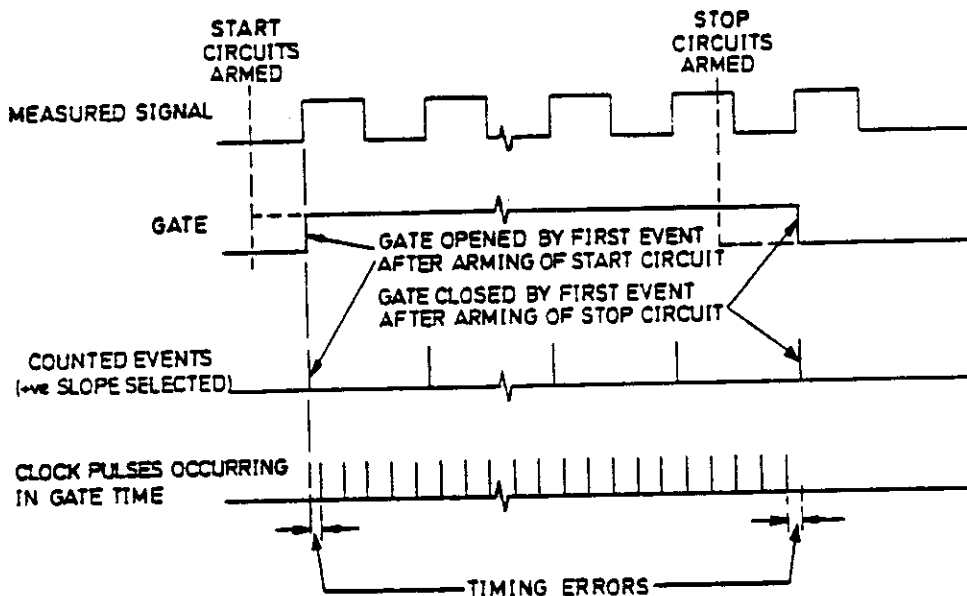

Figure 5.5 - Basic Reciprostatic Counting Technique
5.3.3.1.2 The circuits within MCC1 and MCC2 are configured by the microprocessor according to the measurement function selected. The recipromatic counting technique is used. With this technique the measured signal, not the counter clock pulses, controls the start and stop of the measurement period (gate time) as shown in Figure 5.5. The gate time, therefore, extends over an integral number of cycles of the measured waveform. The gate time is measured by counting the clock pulses which occur while the gate is open. This leads to timing errors at both ends of the gate time, as shown. The TEC circuit enhances the measurement accuracy by compensating for these errors.